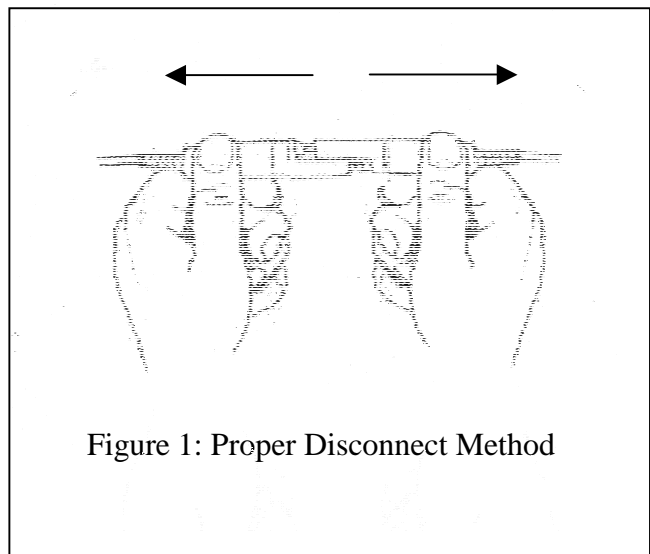

Figure 1: Proper Disconnect Method
- f. When disconnecting the light from the battery pack firmly grip the plug assembly on both halves of the connector, not the cord, and pull connector apart. See Figure 1.